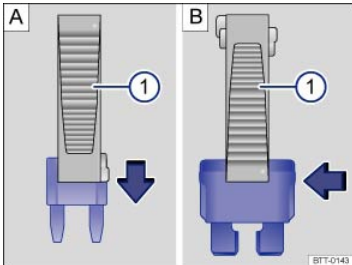

Fig. 187 Removing or inserting a fuse using the plastic tweezers.
- If needed, remove the plastic tweezers ① from the fuse box cover.
- For *small fuses*, slide the tweezers ⇒ Fig. 187 ① onto the fuse from the top **A**.
- For *larger fuses*, slide the tweezers ⇒ Fig. 187 ① onto the fuse from the side **B**.
- If the fuse is blown, replace the fuse with a new fuse of the *same* amperage (same color and same imprint) and *same* overall size ⇒ ①.